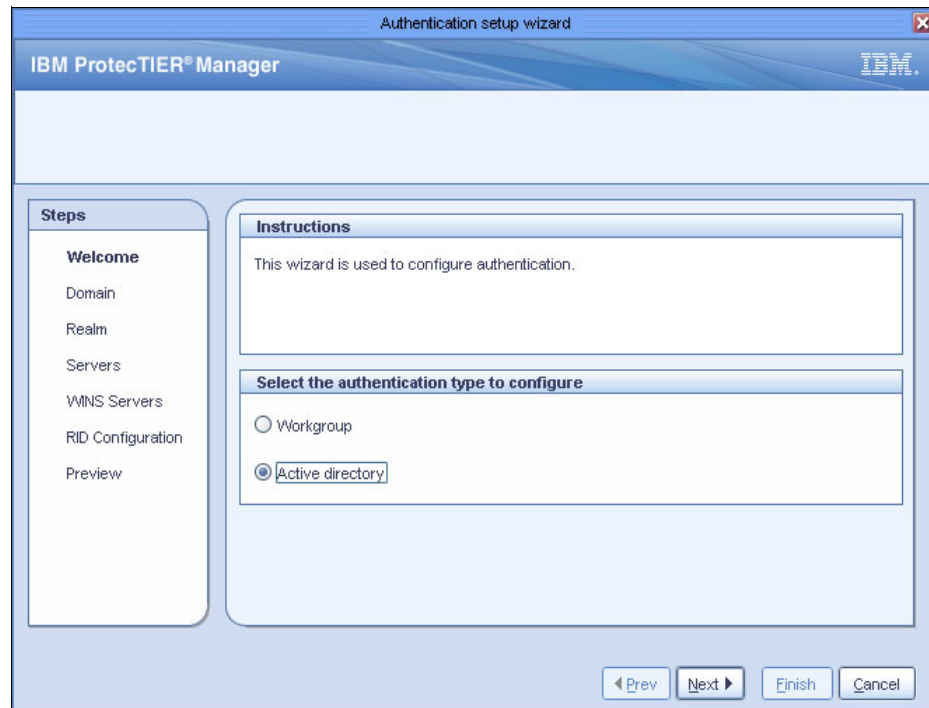

Figure 4-12 Authentication mode
2. To manage data with CIFS, you must set the authentication to either Workgroup or Active Directory. In Figure 4-12, ProtecTIER is configured to join an Active Directory domain. Click **Next**.